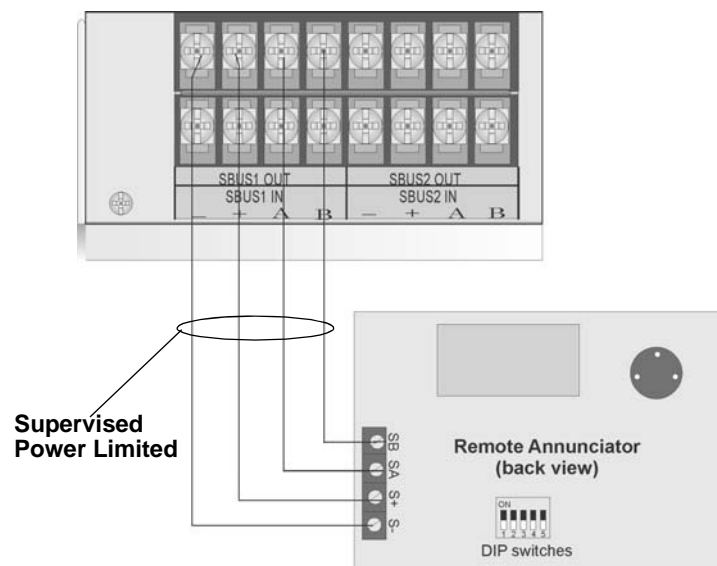

Figure 4-23 Model RA-1000 Connection to the Panel
Connect the RA-1000 to the panel as shown in Figure 4-23.
3. Wire the Annunciator board to the main control panel. See Figure 4-23.